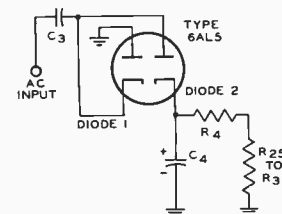
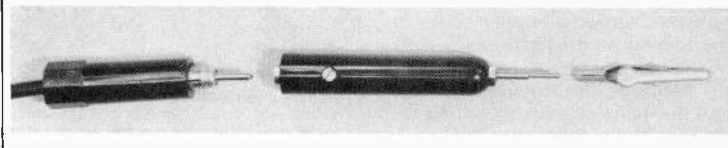

Fig. 2. Simplified schematic diagram of voltage doubler circuit for measuring peak-to-peak voltages.
Fig. 3. For convenience and speed—probe for dc measurements slips on ac probe.
The WV-97A measures ac voltage by impressing it on a full-wave, voltage-doubler circuit which furnishes a dc voltage output equal to the peak-to-peak value of the ac voltage. The operation of this circuit can be understood by referring to the simplified diagram in Fig. 2.
When the instantaneous value of the applied ac voltage swings negative, C_3 charges through diode 1 to the negative peak value of the voltage. The polarity of the charge on C_3 is shown in Fig. 2. As the voltage starts to swing in a positive direction, diode 1 becomes non-conducting and the charge on C_3 is prevented from leaving the capacitor through this diode. The positive peak of the voltage is then added in series with the charge on C_3 and is applied to the plate of diode 2. Capacitor C_4 then charges to a value equal to the sum of the positive and negative peaks, and has the polarity indicated on the drawing. Because of the relatively long time-constant of C_4 , R_4 , and R_{25} to R_{31} , inclusive, the voltage across C_4 will be maintained constant at the peak-to-peak value of the applied ac voltage.
AC voltages can be measured by using the cable directly; dc voltages are measured with a small slip-on probe, illustrated in Fig. 3, containing a one-megohm isolating resistor.
2. Horizontal pulling in picture, as shown in Fig. 2, caused by compression of sync amplitude due to insufficient bias voltage from the AGC circuit. This results in excessive rf-if gain and excessive signal input to the video amplifier.
3. Overloading on strong TV picture signals, as shown in Fig. 3, caused by incorrect setting of AGC
Trouble in the AGC circuit may produce either excessive or insufficient negative control bias voltage. When the bias voltages are too high, the rf and picture-if amplifiers become partially or completely cut off, thereby reducing or preventing the passage of TV signals, and resulting in loss of picture and possibly of sound. When the bias voltages are too low, the gain of the rf and picture-if amplifiers becomes excessive for the incoming TV signals, and overloading may occur in either picture-if or video amplifier. Usually, the first symptom of overloading, or limiting, is compression of sync amplitude, resulting in poor sync action as shown in Fig. 3.
Some AGC circuits include a threshold adjustment that must be set correctly to avoid both excessive and insufficient gain in the rf and picture-if amplifiers. Effects of incorrect adjustment are shown in Figures 2, 3, 6, and 7.
Fig. 2. Horizontal pulling at top of raster, due to compression of sync amplitude, caused by incorrect setting of AGC threshold adjustment. In this case the threshold adjustment is set so that the AGC bias voltages for the rf and picture-if amplifiers are insufficient, resulting in excessive gain and excessive signal input to the video amplifier, where limiting action clips, or compresses, the sync amplitude. The reduction of sync amplitude may be observed by inspection of vertical sync on the kinescope, as shown in Fig. 7.
Fig. 3. When the AGC threshold adjustment is advanced slightly more than shown in Fig. 2, the grey and the black picture elements become compressed, as shown above. Further advancement may result in complete loss of picture, except on very weak stations, for which the AGC is inoperative and the threshold adjustment has no effect.
Fig. 7. Reduction of sync amplitude due to incorrect setting of AGC threshold adjustment. The vertical sync shown above is only slightly darker than vertical blanking, indicating that the sync amplitude has been reduced (compressed, limited, or clipped). The sync should be considerably darker than the blanking. Another example of the same condition is shown in Fig. 2.